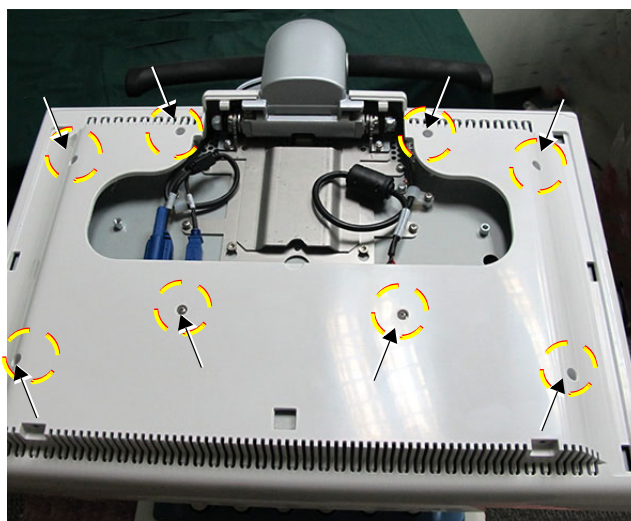

Figure 8-38 Monitor Rear Cover Securing Screws
- 4) Remove the 8 screws that secure the Rear Cover to the back of the monitor (Figure 8-38).